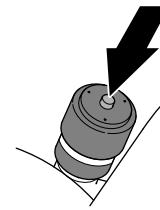

Figure 66
6. If a red band displays in the service indicator, press the reset button at the end of the indicator (Figure 66).